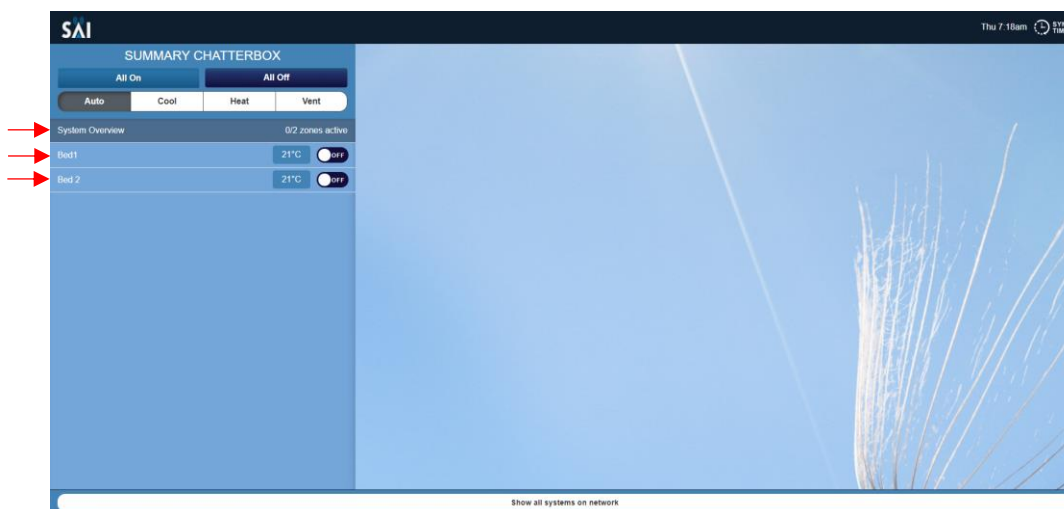

**Figure 15 – Zone airflow adjust**
6. Press the “Home” button when you have completed your selections. (Figure 15) or select another zone and repeat.